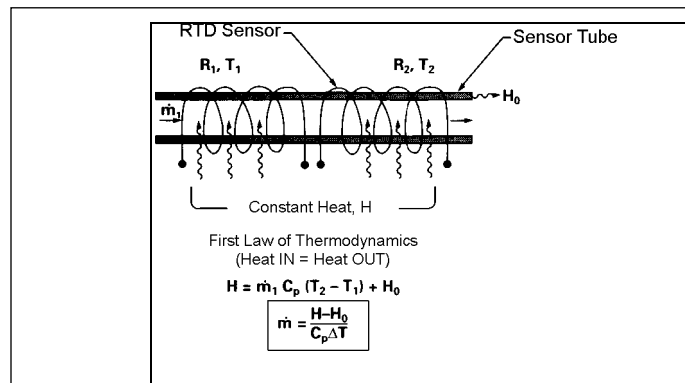

Figure 1-3. Flow Measuring Principle
Two resistance temperature detector (RTD) coils around the sensor tube direct a constant amount of heat (H) into the gas stream. In actual operation, the gas mass flow carries heat from the upstream coil to the downstream coil. The resulting temperature difference (ΔT) is detected by the RTD coils and gives the output signal. Since the molecules of the gas carry away the heat, the output signal is linearly proportional to gas mass flow. (Figure 1-3)
Figure 1-3 shows the mass flow through the sensor tube as inversely proportional to the temperature difference of the coils.